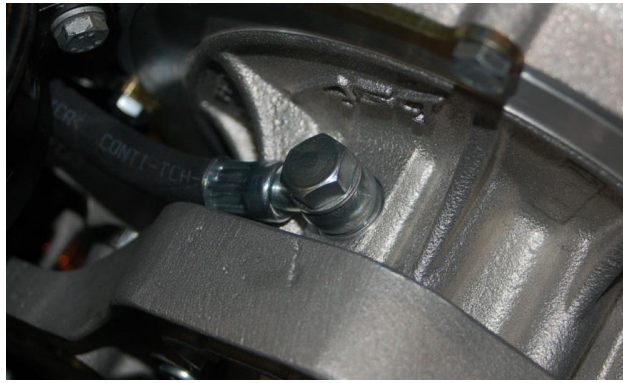

Figure 25
13. Mount the oil feed line to the compressor. Pay attention to proper positioning of gaskets and cleanliness. Tightening torque of banjo bolt on compressor: 14Nm (Figure 25).